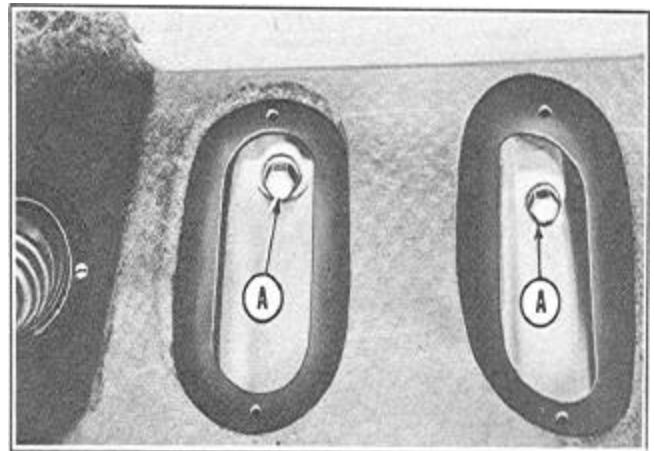

FIGURE 139
**NOTE:** These converter housing upper bolts can also be removed at the driver compartment by disconnecting the accelerator pedal and peeling the floor mat to one side to expose the two floor opening covers (held by sheet metal screws) and remove the two converter housing upper screws (A), Figure 139.